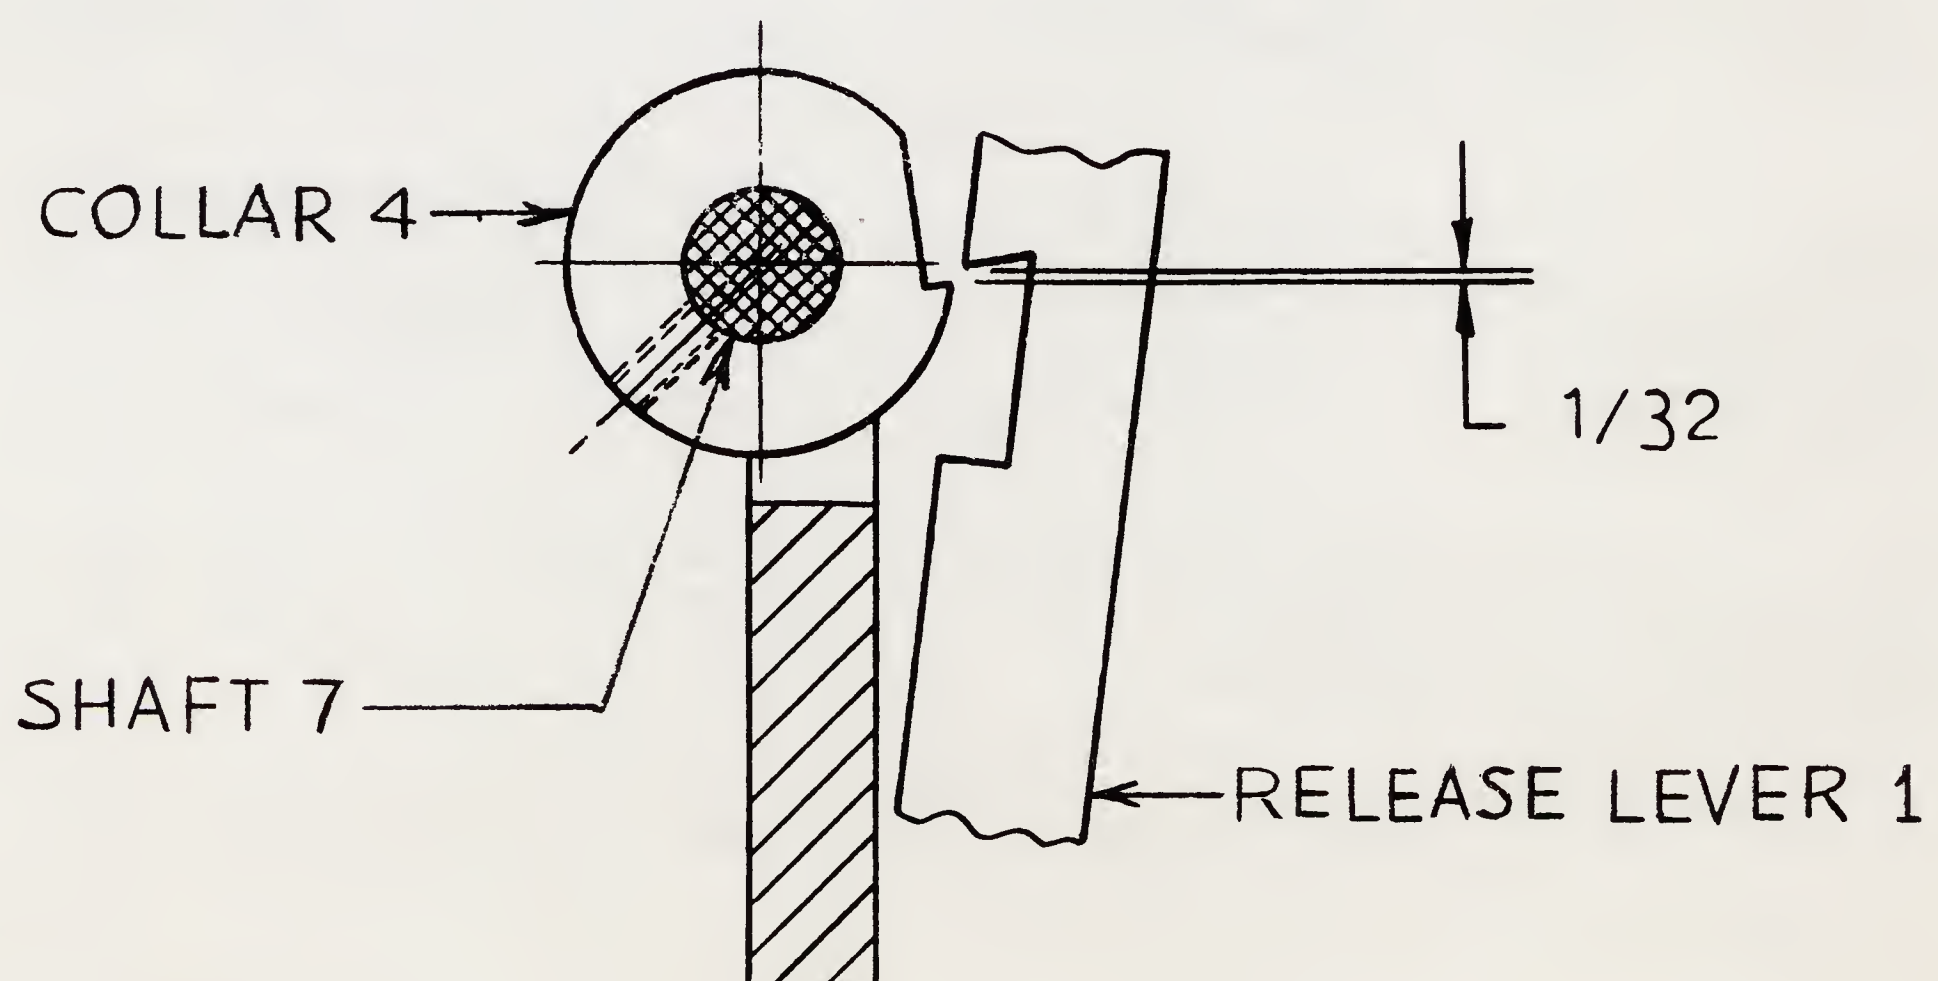

FIG. 26
When the cam plate (3), Fig. 18, is forced downward by the return of the delivery lever, collar (4) on shaft (7), Fig. 26, there should be  $1/32$ " of overtravel of the notch in collar (4).